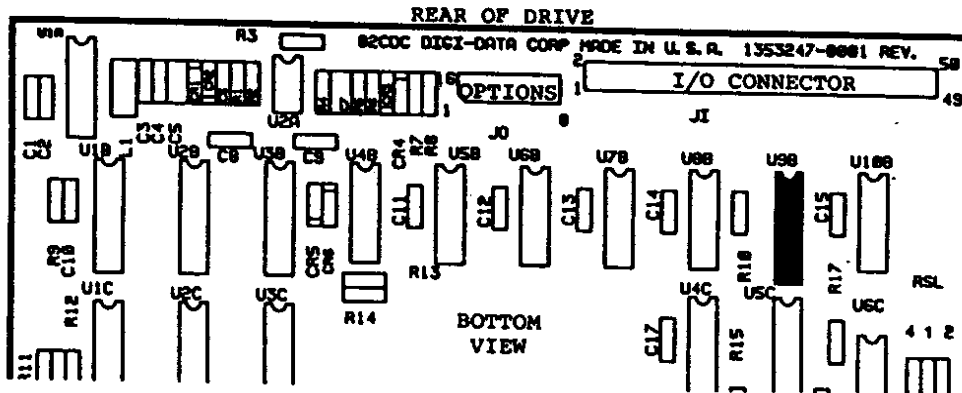

Figure 3.1, Bottom Rear of Drive
3.1 ELECTRICAL INTERFACE REQUIREMENTS. The cartridge drive and its controller exchange all information (commands, status, and data) through the drive's interface. All signals are TTL (low true) and pass through dedicated interface lines. For all output signals, line drivers are 7406 open-collector buffers or the equivalent, capable of sinking 40 mA; receivers are 7414 thres-holded devices or the equivalent. As shipped, all inputs are terminated in a 220/330 terminator pack (i.e. a 220 Ohm resistor to +5V and a 330 Ohm resistor to ground) to keep the signals from the controller at proper TTL high or low levels. This is correct for solitary drives, but when the system requires that more than one drive be daisy-chained (connected in parallel) to one controller, the terminator on all drives EXCEPT the LAST in the chain must be changed to a 4.7k ohm resistor pack. For convenience, the terminator is socket-mounted at location U9B on the Control Board. See Figure 3.1.